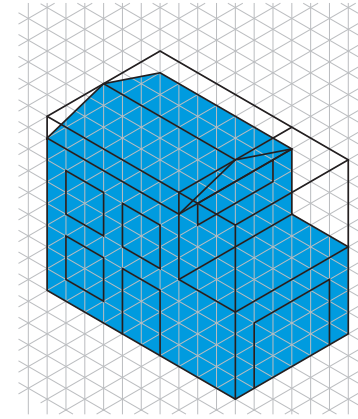

Figure 3-18. Add details such as doors and windows.
3. Add details, including windows and doors, as shown in **Figure 3-18**.